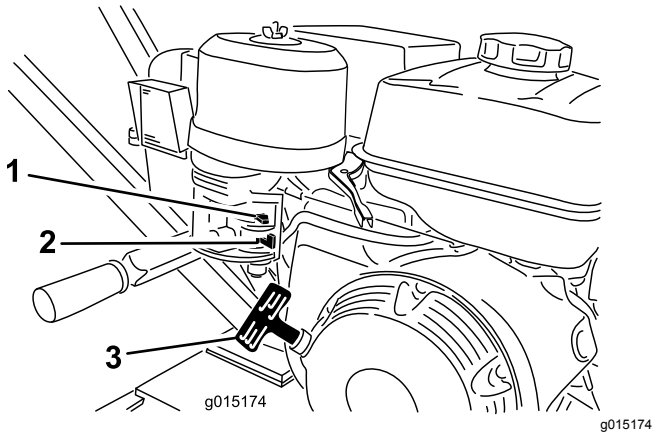

Figure 9
1. Move the fuel valve to the OPEN position, all the way to the right (Figure 9).
2. Move the choke lever to the ON position (Figure 9).
4. Pull the recoil-start handle lightly until you feel resistance, then pull the handle briskly (Figure 9). Return the recoil-start handle gently.